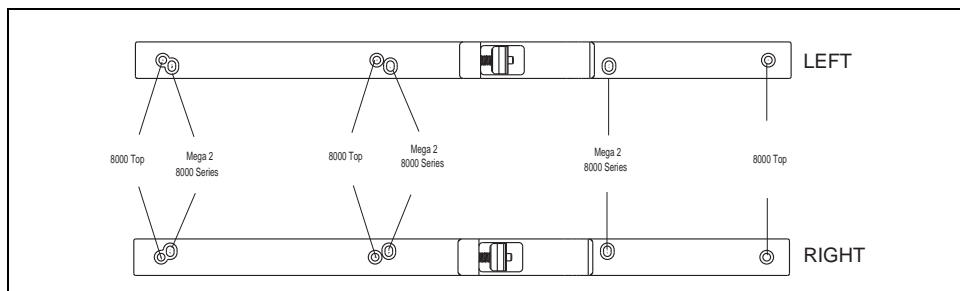

Figure 3-21. Sampler Supports Fixing Holes
4. Guide the fixing screws into the corresponding fixing holes according to the obsolete GC in use as shown in Figure 3-21.